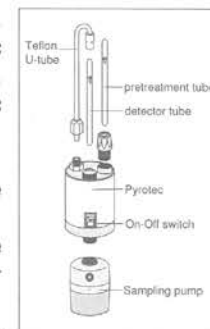

fig. 1
5. Insert the tube securely into Gastec Pyrotec Pyrolyzer with the arrow (➔) on the tube pointing toward Gastec Pyrotec Pyrolyzer (fig. 1).